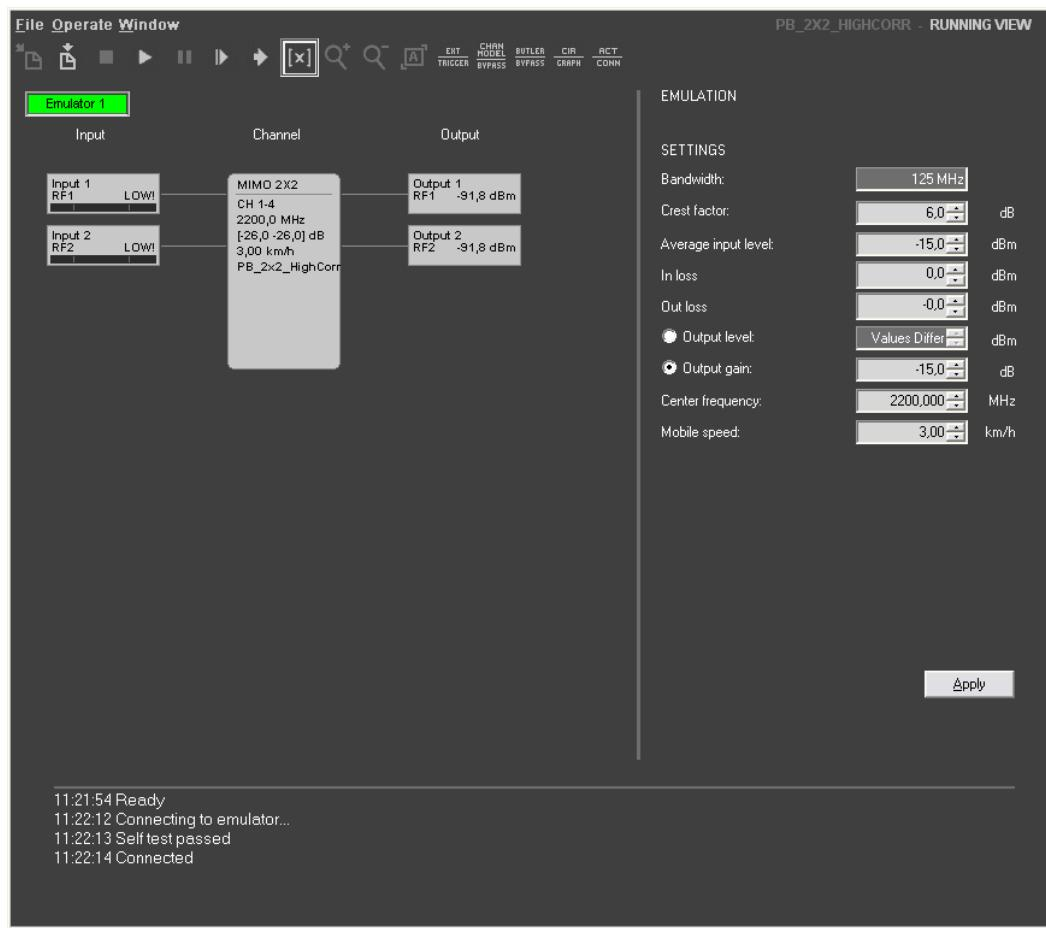
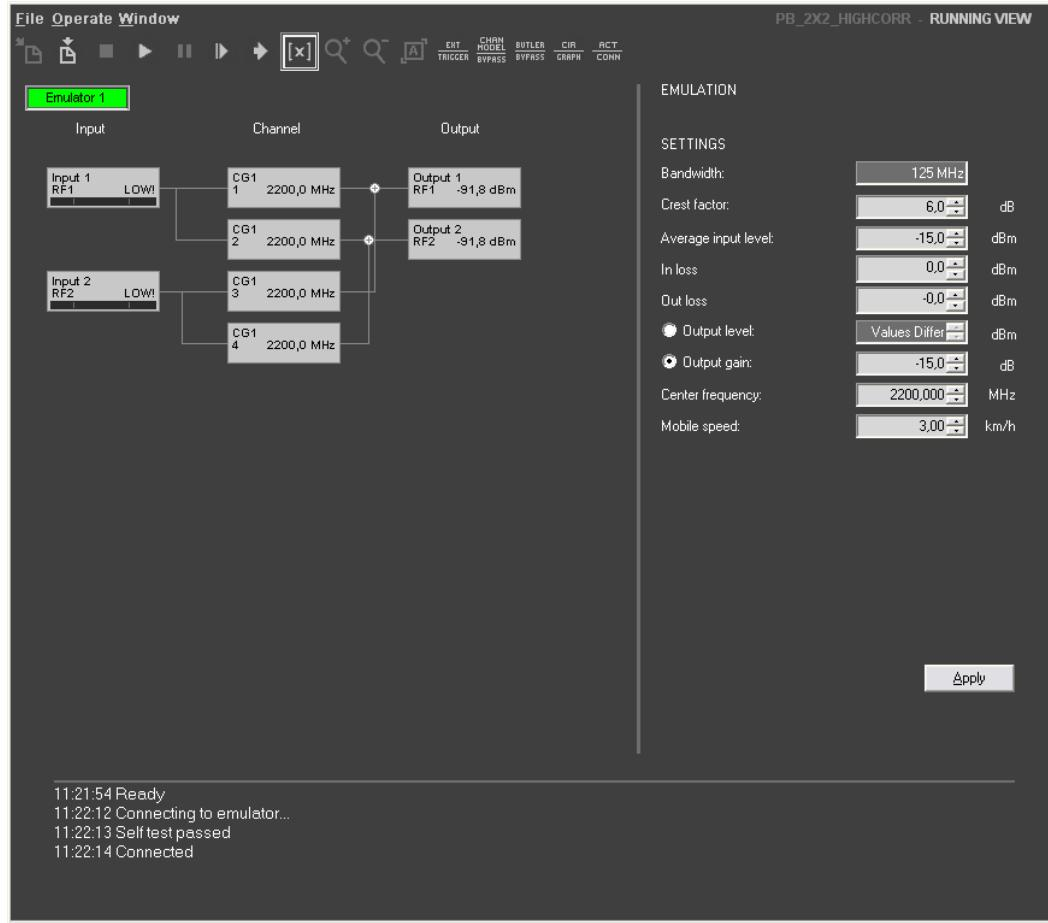

Figure 57. Running view - Emulation settings
Figure 60. Emulation settings view
- If Grouped MIMO channels is selected, the channel objects of emulation block diagrams are replaced with channel group boxes if loaded emulation type is either MIMO or MANET/Mesh. The setting is on by default. In Figure 60 grouped MIMO channels selection is disabled and in Figure 57 it is enabled.
The Emulation settings of Running view contains emulation block diagram and parameter settings area, see Figure 57.
The block diagram illustrates the current emulation setup. Note that for MIMO configurations, the look of the block diagram varies depending on the Grouped MIMO channels selection in File → Settings (see Chapter 4.4.4.1). In Figure 57 the Grouped MIMO channels selection is enabled (default) i.e. the channels are illustrated as single group.
The emulation settings can be accessed by repeatedly clicking in the block diagram objects or once in the background of block diagram (Figure 60).